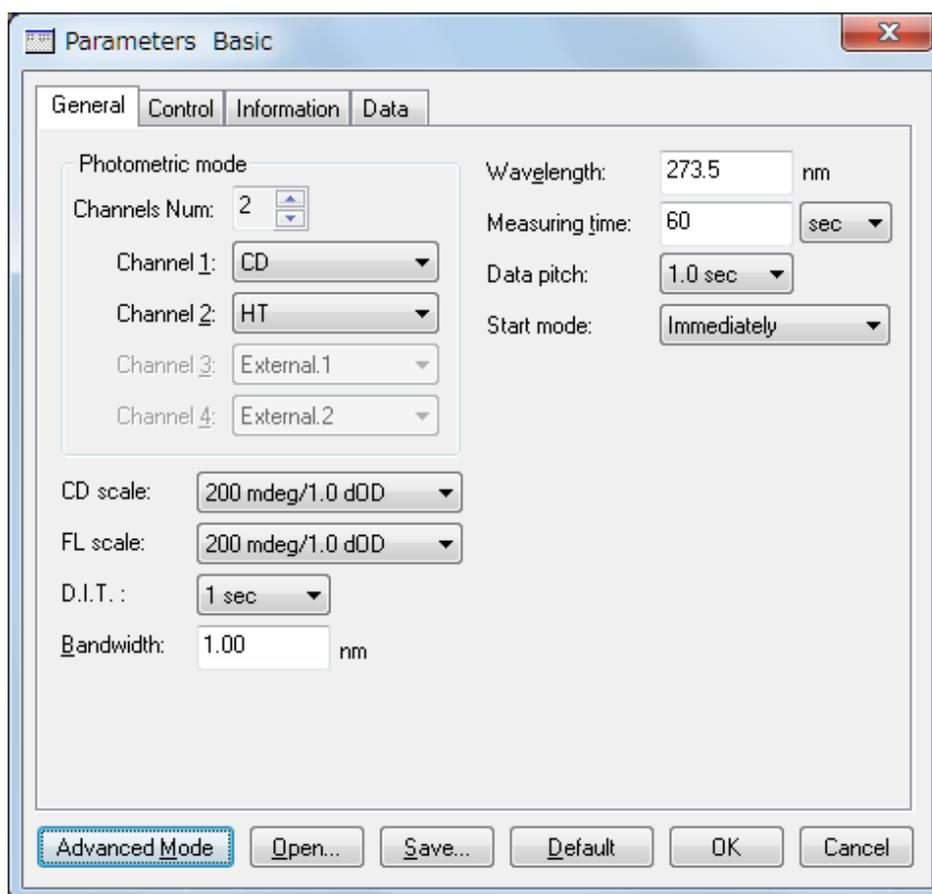

Figure 5.2 [General] tab in [Parameters] dialog box
- (1) Select [Parameters...] from the [Measure] menu (or click the  button) to display the dialog box in Fig. 5.2. The [Parameters] dialog box contains the [General], [Control], [Information], and [Data] tabs. The [General] tab is open by default in the [Parameters] dialog box. The page can be changed by clicking each tab at the top of the dialog box.
The following example describes how to specify the wavelength. Click the [Wavelength] text box to edit the wavelength. When the cursor appears in the text box, values can be entered. Type the desired wavelength (in the example in Fig. 5.2, 291 nm) in the text box to set the wavelength.